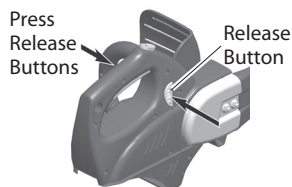

Figure 21 - Separate Main Handle from Powerhead.
2. Separate main handle from chain saw power head by pressing both release buttons on main handle and pulling apart (see Figure 21).